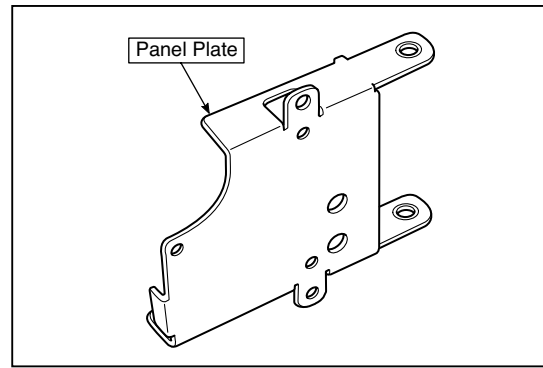

Fig.27
- 2.Remove the Panel Plate shown in the figure 27.